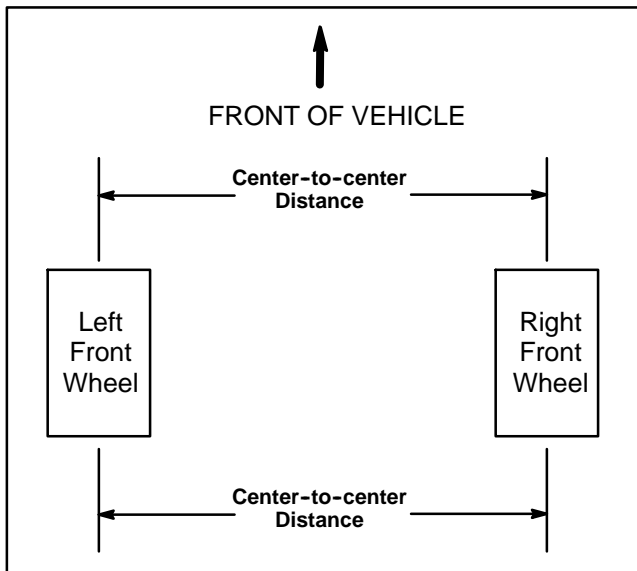

Figure 27
2. With the pitman arm centered, measure center to center distance (at axle height) between the front wheels at both front and rear of the wheels (Fig. 27). The front and rear measurements should be equal with a tolerance of 0.120" (3 mm). Rotate tires and make a second measurement.